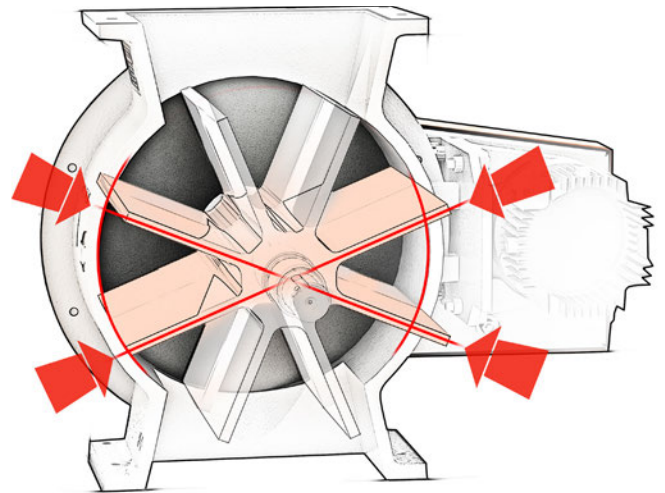

FIGURE 11
6. Position the rotor so two blades will contact the body on each side while being removed (Figure 11).